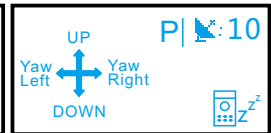

Figure 10-5: Hibernate
- If it is displayed as shown in Figure 10-5, the drone is in sleep mode, you need to wake up the remote controller before you can operate it.